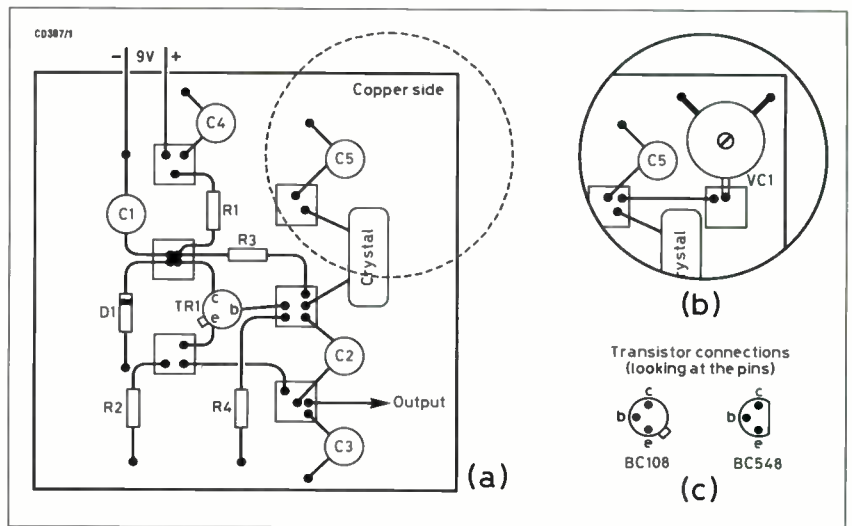

Fig 3.3. (a) The component layout of the oscillator. (b) Modification to allow setting to a precise frequency. (c) Transistor connections
Look at the layout diagram in Fig 3.3 and note that the type of construction to be used is the 'ugly' method – small 'islands' of copper laminate on a sheet of similar material. Try to see how the practical circuit compares with the theoretical one.
9. When all components are identified lay them out with the small square 'islands' onto the motherboard. It is better to attempt to do this by looking at the circuit diagram only; this is good practice for future projects. However, if you have trouble, refer to the layout diagram shown in Fig 3.3.
18. Solder in the diode D1. This component must be connected with the correct polarity. Note the band at one end of the diode, and fix as shown in Fig 3.3.
19. Finally, solder in the transistor. This has three wires and care must be taken to ensure that they are connected exactly as shown. Two different types of transistor package are shown and the arrangement for each type is indicated in the layout diagram Fig 3.3.